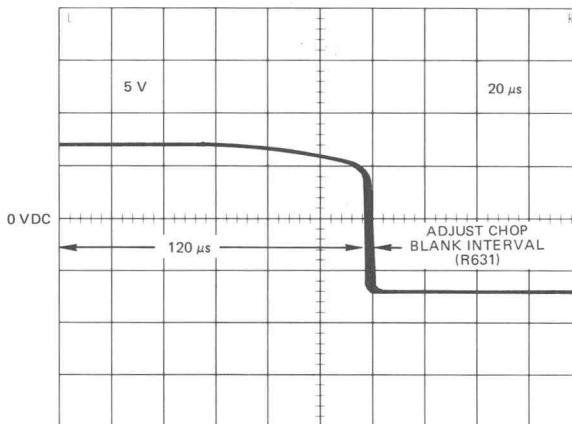

Fig. 5-8. Chop Blanking Interval.
b. CHECK—Test oscilloscope should display positive-going pulse of  $120 \mu\text{s}$ ,  $\pm 5 \mu\text{s}$  (see Fig. 5-8).